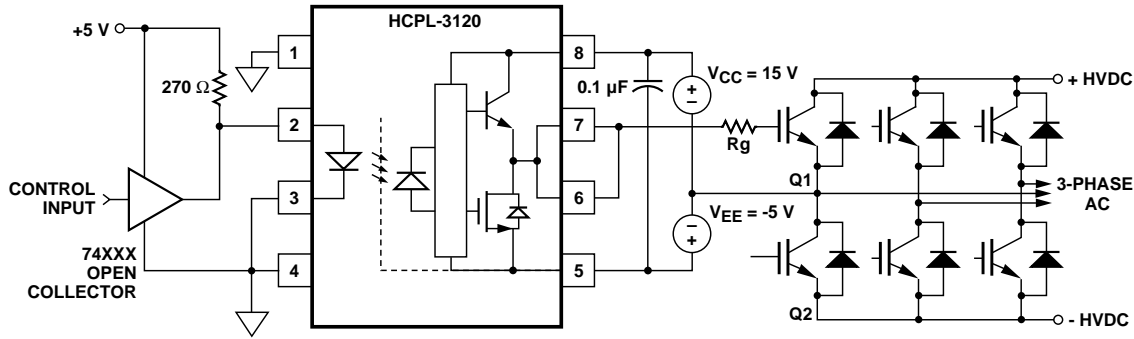

Figure 26. HCPL-3120 Typical Application Circuit with Negative IGBT Gate Drive.
**Step 1: Calculate Rg Minimum from the IOL Peak Specification.** The IGBT and Rg in Figure 26 can be analyzed as a simple RC circuit with a voltage supplied by the HCPL-3120.
For the circuit in Figure 26 with  $I_F$  (worst case) = 16 mA,  $R_g = 8 \Omega$ , Max Duty Cycle = 80%,  $Q_g = 500 \text{ nC}$ ,  $f = 20 \text{ kHz}$  and  $T_A \text{ max} = 85^\circ\text{C}$ :